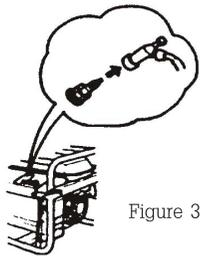

Figure 38
3.1 Disconnect the spark plug cap and the spark plug, clear the dirt around the spark plug (Figure 38)